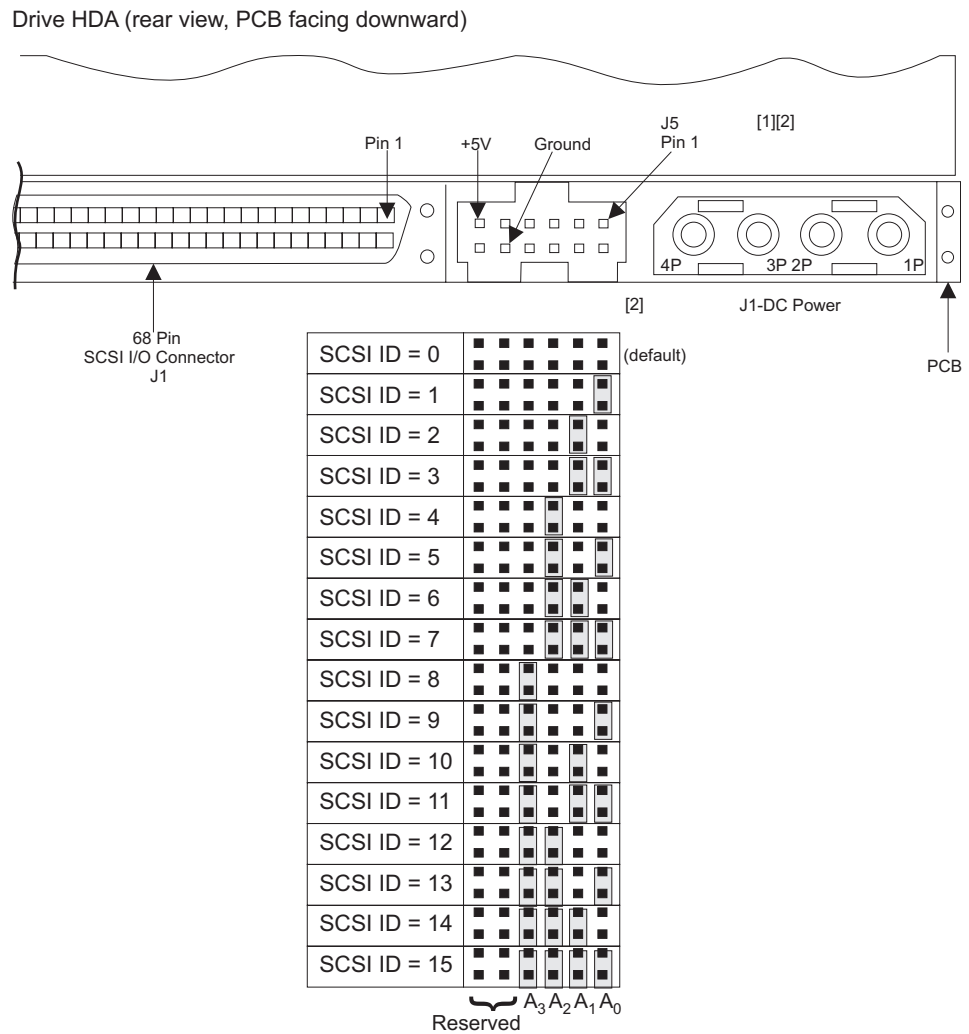

Figure 162. SAN Volume Controller 2145-4F2 disk drive jumpers
- Check whether the old disk drive has any jumpers installed. If it does, install matching jumpers onto the new disk drive. Figure 162 shows the location of the jumpers.